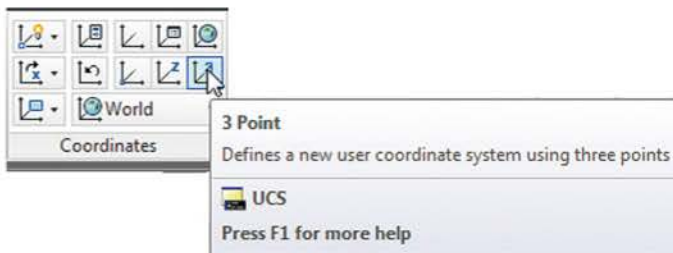

Fig. 18.13 The UCS, 3 Point icon in the Home/Coordinates panel
3. Click the 3 Point tool icon in the **Home/Coordinates** panel (Fig. 18.13). The command sequence shows: